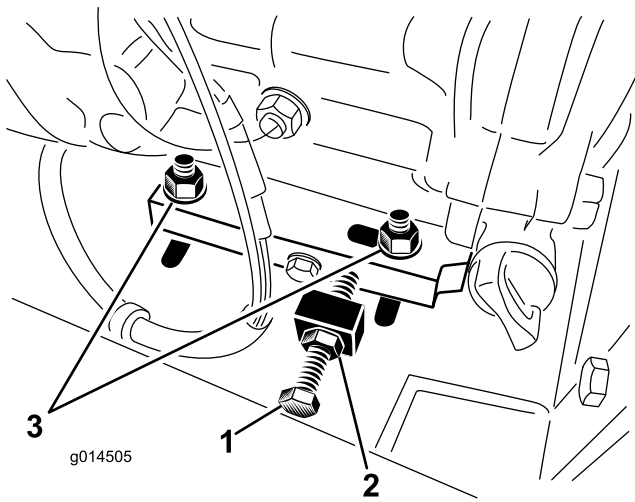

Figure 20
2. Loosen the 4 engine mounting bolts, and jam nuts holding the adjustment bolt (Figure 20).